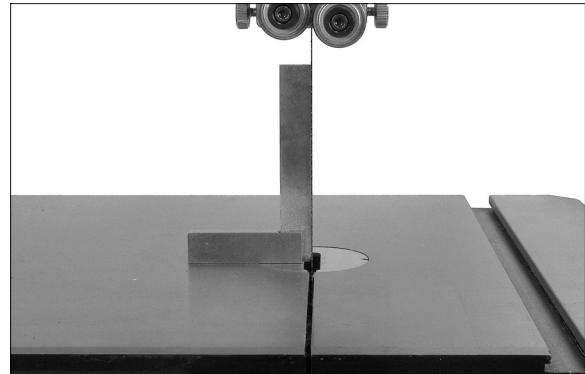

Figure 17
4. Place a square on table and against blade to check that table is 90° to blade. See Figure 17. *Do not push square into blade.*